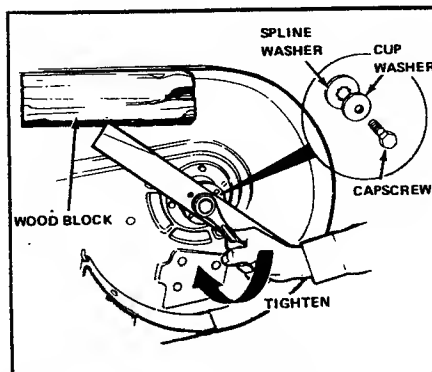

Figure 18. Installing Blade
7. Reinstall each blade with the tabs pointing up toward deck and secure with a capscrow, cup washer, and spline washer. Be sure the splines on the spline washer are aligned with the shaft and the washer is flush against blade. Be sure cup washer is installed concave side up. Use a wooden block to prevent blade rotation and torque capscrow to 50 ft. lbs. (68 N.m) (figure 18).